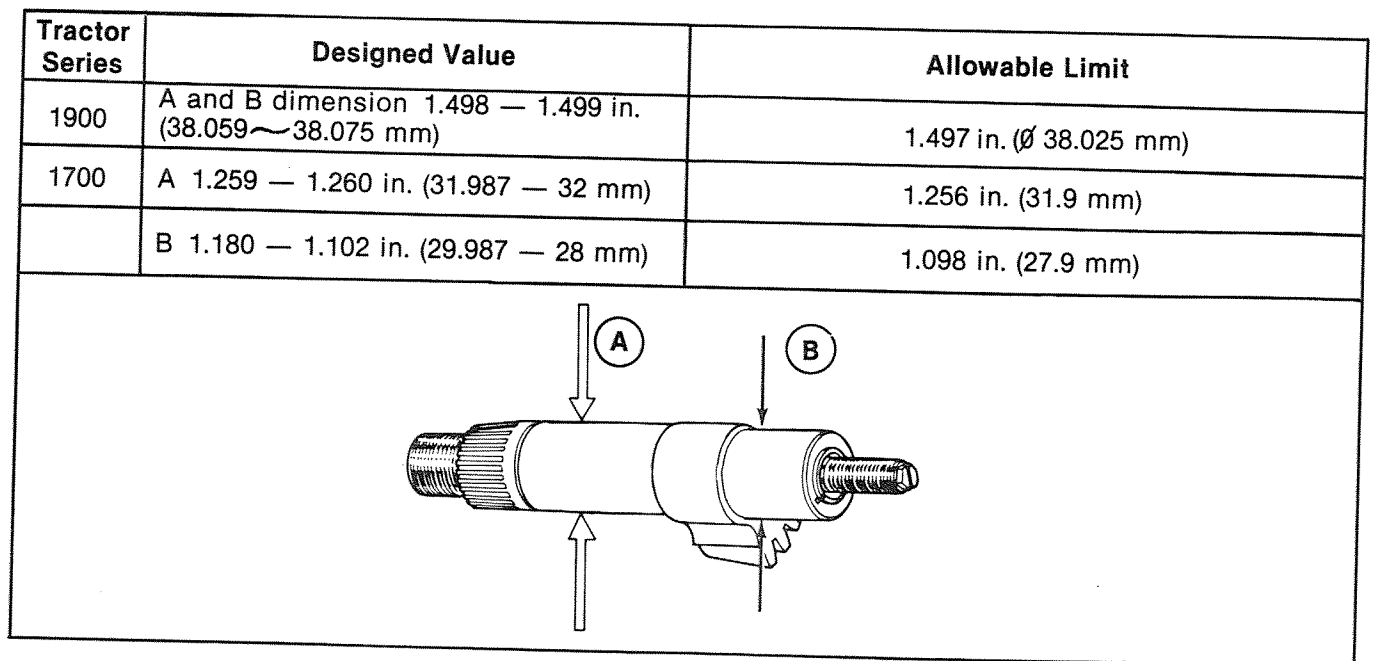

**Figure 39**
3. Clamp the ball nut in a vise and measure the end play of the worm shaft, Figure 39. If the end play exceeds 0.004 in. (0.10 mm), replace the shaft.